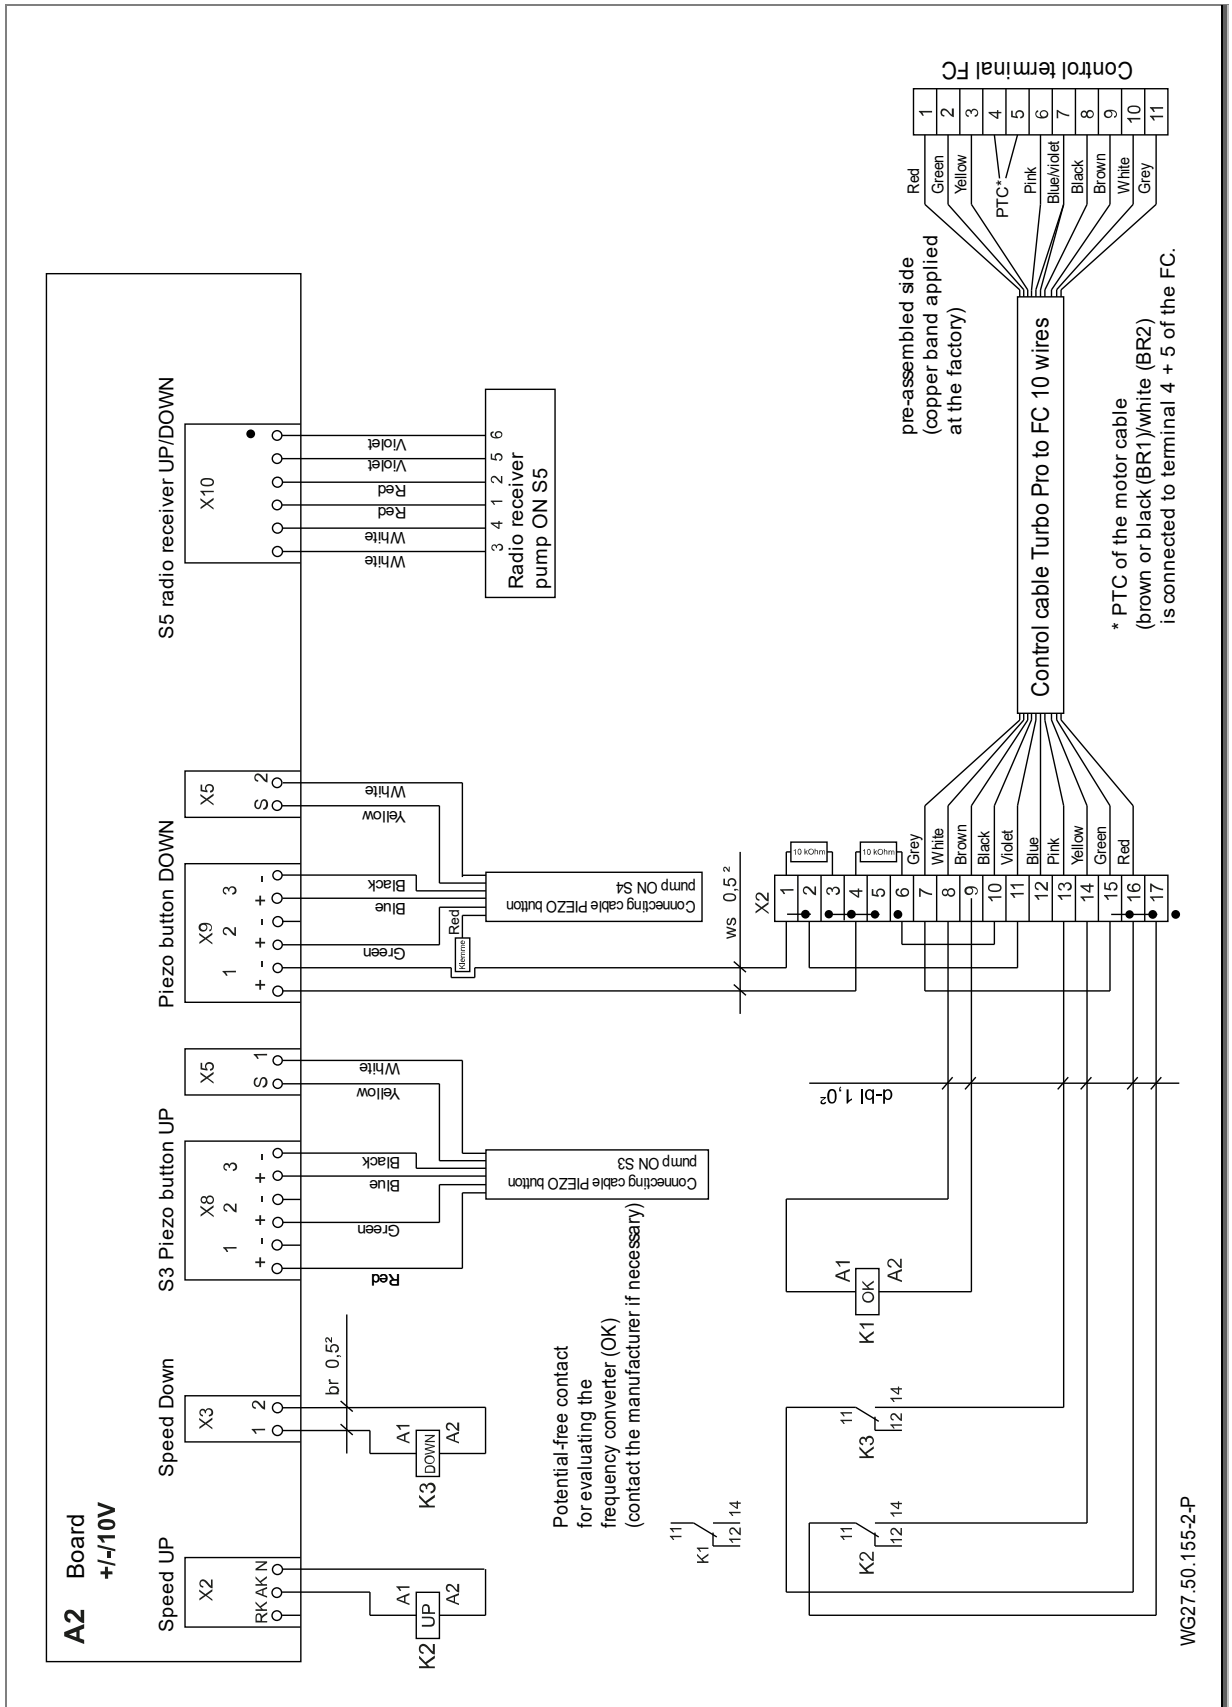

Fig. 19
14. The wires for the PTC (brown or black (BR1)/white (BR2)) must be connected according to the circuit diagram. See "Fig. 19" on page 25